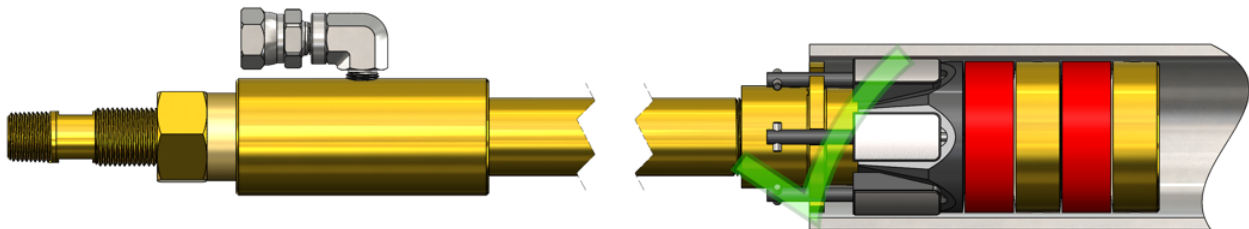
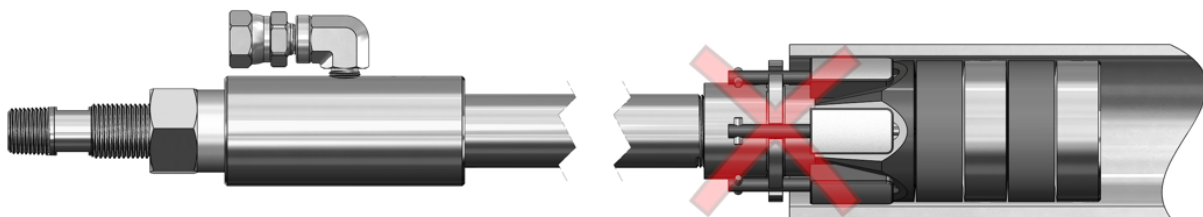

Figure 6: GripSafe ST DBB Minimum Insertion Depth in a Sectioned Pipe
Figure 7: GripSafe ST DBB incorrect Insertion Depth in a Sectioned Pipe
- Once the **Wedge Grippers (16)** contact the inner diameter of the pipe, they will automatically grip, making removal of the plug impossible at this stage. Refer to Section 8 for instructions on plug removal if necessary.
6.4 For pipe installation, insert the GripSafe ST DBB plug to the desired depth, ensuring the DBB **Spring Plate's (7)** slotted section is flush with the pipe's face. See Figure 6 for proper installation and Figure 7 for improper installation. If needed, the slotted section can be pushed further into the pipe. For welding neck installation, refer to Section 7.